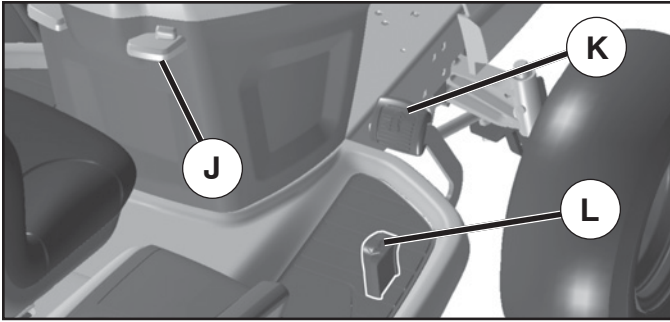

Fig. 7
TO MOVE FORWARD AND BACKWARD (See Fig. 7)
TO USE CRUISE CONTROL (J) (See Fig. 7)